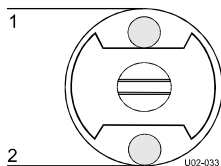

Figure 14: Auto-grip shaft position.
2. Place the scrap core on the shaft, holding the shaft as in Figure 14.
3. Insert the shaft into the core cylinder of the film roll, holding the auto-grip shaft as in Figure 14.
4. Place the shaft with the film roll in the correct way back into its suspensions (see Figure 14).